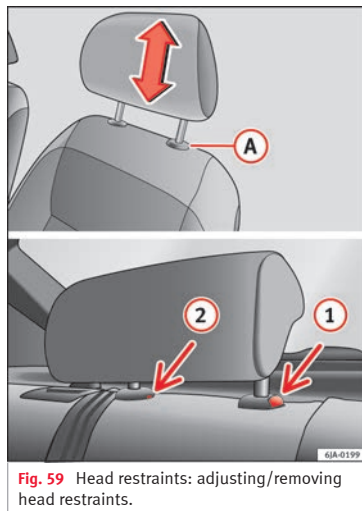

Fig. 59 Head restraints: adjusting/removing head restraints.
- To lower the head restraint, press button **(A) »» Fig. 59** while pushing the head restraint downward.
- Press catch **(A) »» Fig. 59** and remove the head restraint.
- Press catch **(1) »» Fig. 59** while pressing on the catch in hole **(2)** with a max. 5 mm flat-headed screwdriver and remove the head restraint.